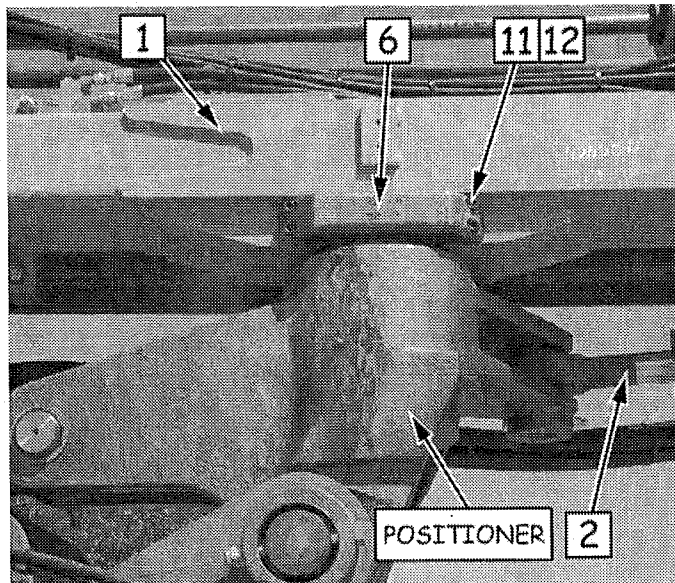

Fig. 6-7 Feed Table
4. Remove the two retaining caps (item 6, fig. 6-7) by removing the four socket head capscrews and washers from each cap.